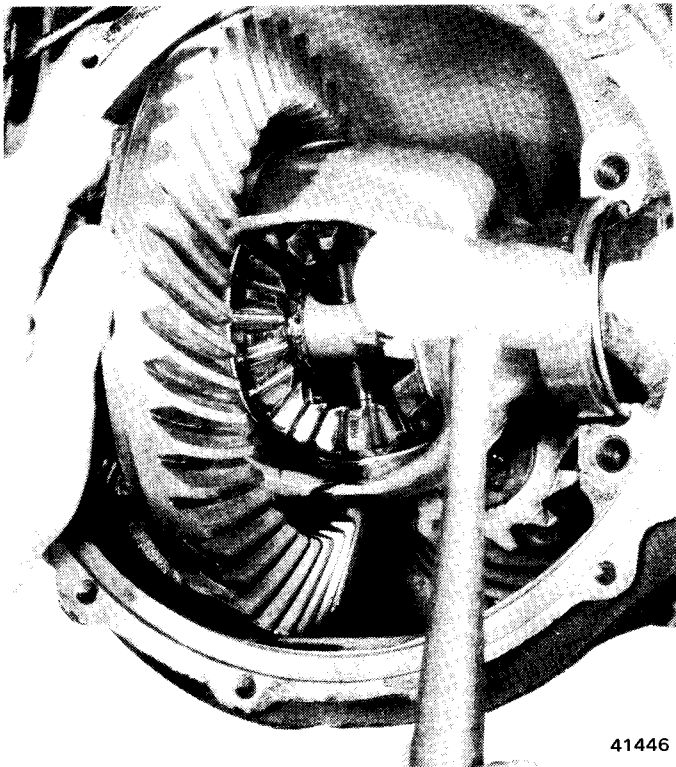

Fig. 10-48 Differential Installation
(1) Install differential bearing shims in axle housing bearing bores.
(2) Assemble differential bearing cups on differential bearings. Bearings should completely cover differential bearing rollers.
(3) Position differential so that bearings just start in axle housing bearing bores (fig. 10-48).
(4) Using plastic mallet, tap outer edge of bearing cups until seated in housing.
(5) Install bearing caps, aligning punch marks correctly. Tighten bolts to 87 foot-pounds torque.
(6) Preloading differential bearings may change backlash setting. Check backlash and correct if necessary.